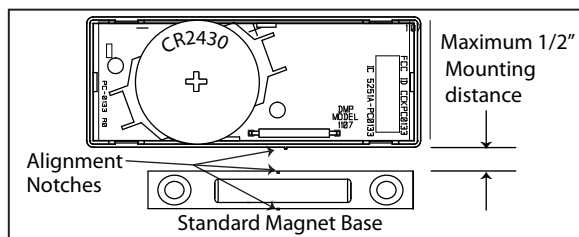

Figure 5: Transmitter and Standard Magnet
1. When using the standard magnet, place the magnet base on the surface nearest to the internal reed switch location aligning the location notches in the transmitter and magnet base (see Figure 5), and use the provided #4 flat head screws to secure the magnet base in place. Snap the magnet into the standard housing, then snap the housing onto the base.